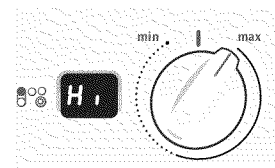

Figure 2
2. Push in and turn the surface control knob in either direction to the desired setting using the ESEC digital display window for the desired setting (Fig. 2). Turn the knob to adjust the setting if desired. Start most cooking operations on a higher setting and then turn to a lower setting to finish cooking. Each surface element provides a constant amount of heat at each setting. A glowing red surface heating area extending beyond the bottom edge of the cookware indicates the cookware is too small for the surface heating area.